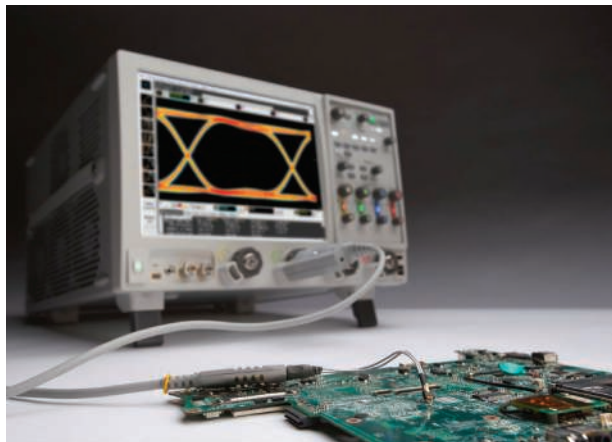

Figure 4. The 90000 X-Series oscilloscope displays an entire jitter-versus-frequency curve.
Step 2. Connect the sine wave generator to an input on the oscilloscope (Figure 4).